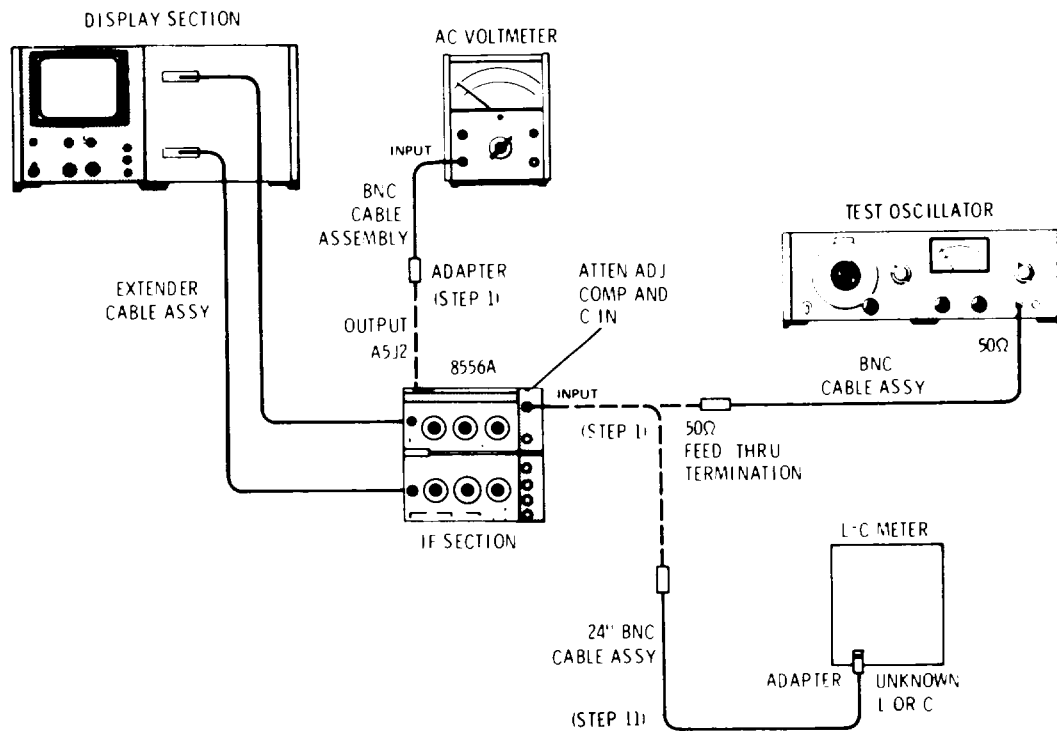

Figure 5-2. Pre-Attenuator Adjustment Test Setup
1. Connect equipment as shown in Figure 5-2, disconnecting green cable (A3W1) so that AC Voltmeter can be connected to A5J2 (OUTPUT). Connect Test Oscillator to analyzer INPUT through 50 Ohm Feed Thru Termination.